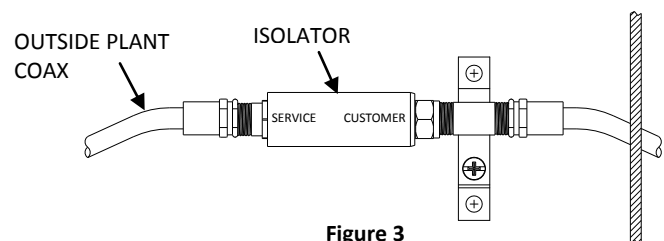

Figure 3
4. Connect the outside plant coax cable to the "SERVICE" (female end) of the tii 220 Isolator and verify the integrity of signal at the customer premises. (See Figure 3).